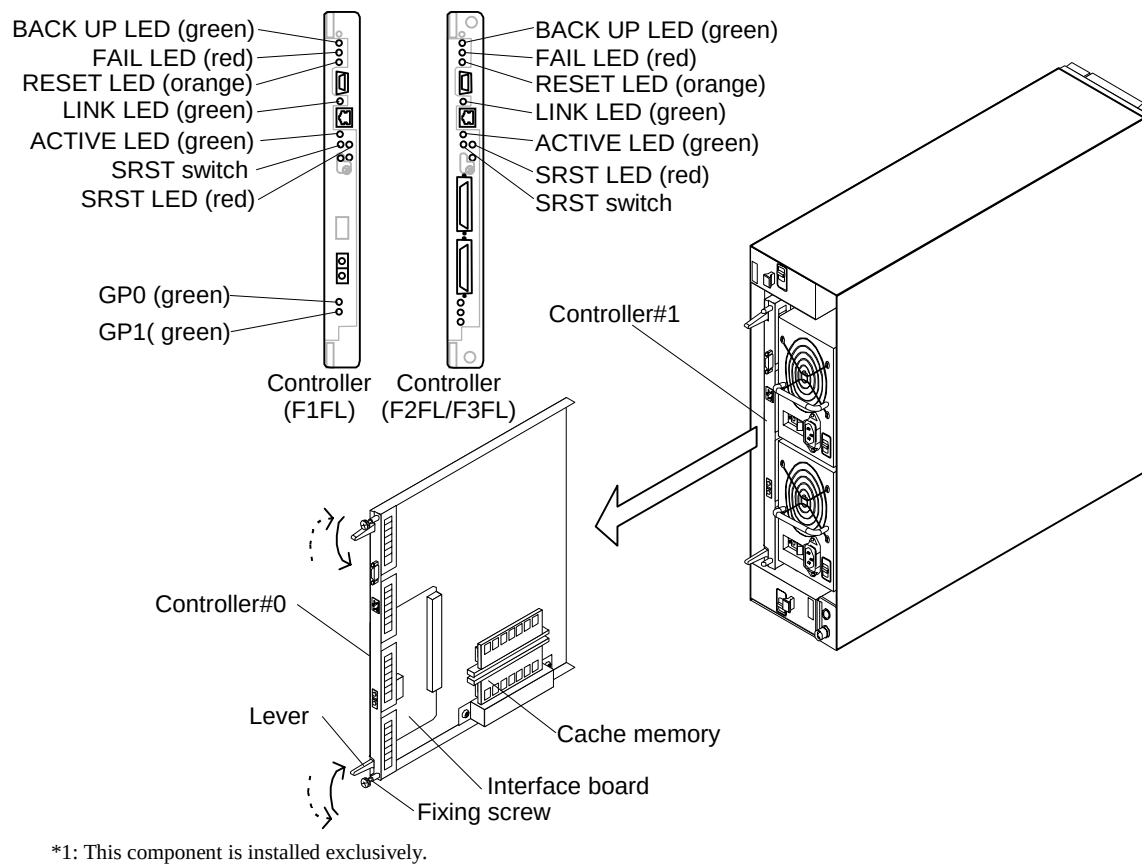

Figure 4.2.6 Controller Replacement and LED Locations
*1 : For the installation location of the FAIL LED, see Figure 4.2.6..
(1) Procedure for replacement with the power turned on (for the case of the dual Controller configuration only)
(b) Make sure that the FAIL LED (red) on the Controller to be replaced is on. (Refer to Figure 4.2.6.)
- (c) To block the controller by way of prevention against a failure, press the SRST switch and make sure that the FAIL LED (red) comes on (see Figure 4.2.6).
- (2) Procedure for replacement with the power turned off (See Figure 4.2.6.)